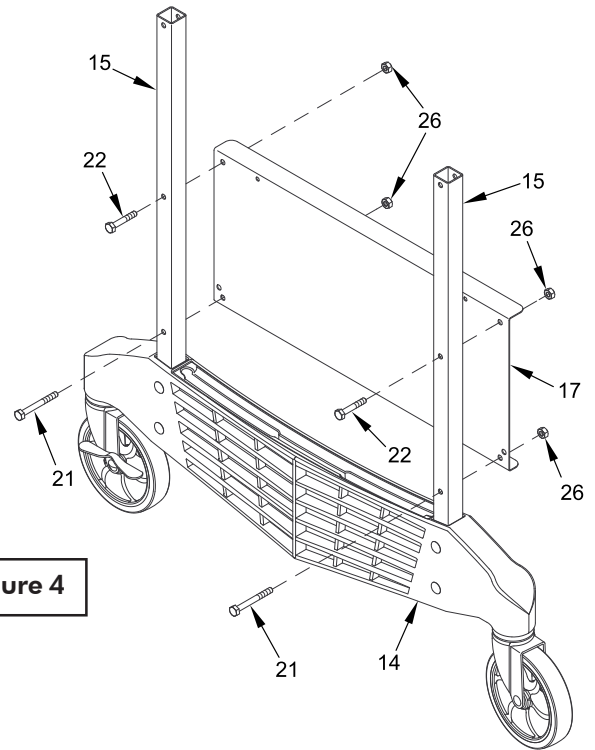

Figure 4
- Attach Name Panel #17 to **inside** of Upright Tubes #15 using two bolts #21, two bolts #22, and four locknuts #26. See Figure 4. Short bolts #22 go in top holes and long bolts #21 go in bottom holes. Tighten top bolts #22 but do not overtighten, crushing tubes. **Do not tighten bottom bolts #21 tight yet, they will have to be removed in a later step.**
- Repeat step 5 with other name panel and caster beam with upright tubes. See Figure 4.